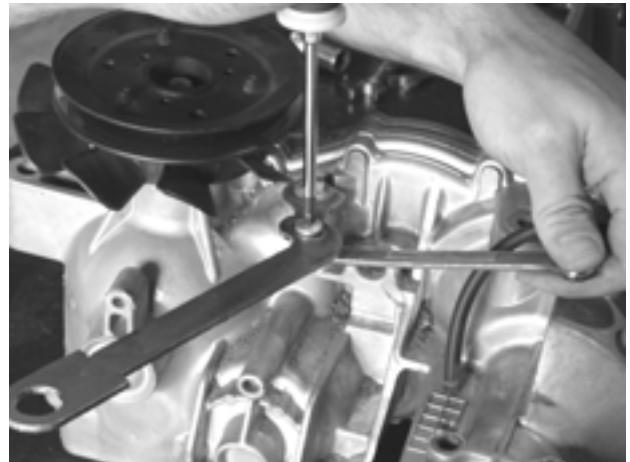

Figure 67
14. Using a 7/16" wrench and Phillips head screwdriver, remove the dump valve lever and install it on the new hydro pump **Figure 67.**